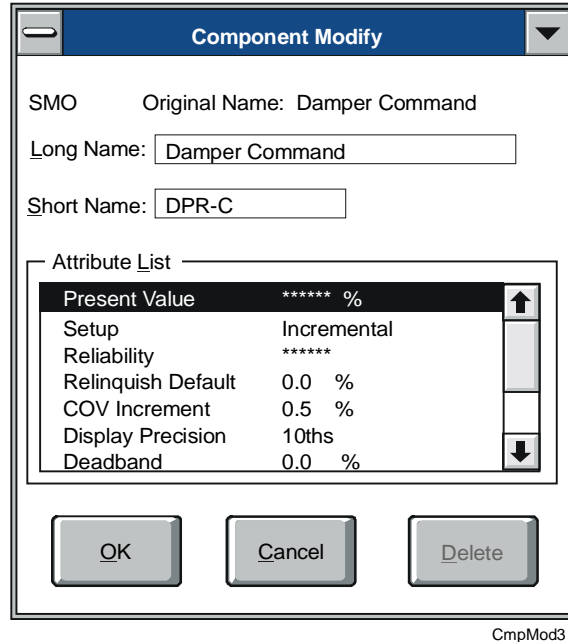

Figure 8-21: Modifying VMA Additional Outputs Window
1. Double-click on the item in the attribute list you want to change. The Component Modify dialog box displays for the attribute you have selected (Figure 8-21). You can modify the value of each point.